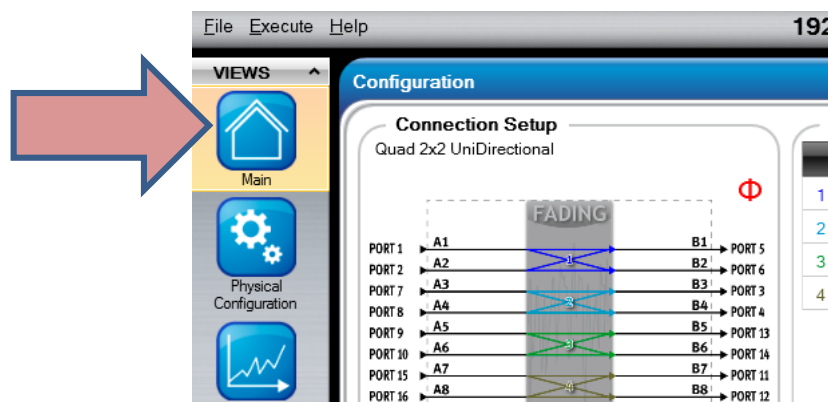

Figure 3-4: Selecting Main View on VR5
6. Click the **Main** button, as shown in Figure 3-4.